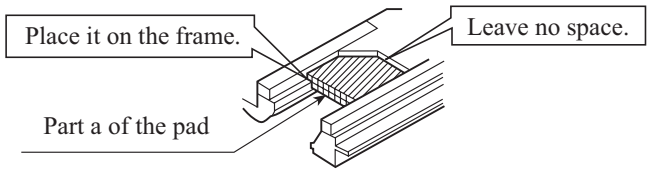

Fig. 6
- ② Install part a of the pad on the place shown in Fig. 5. Refer to Fig. 6.